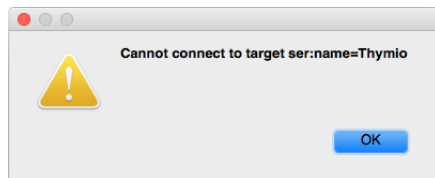
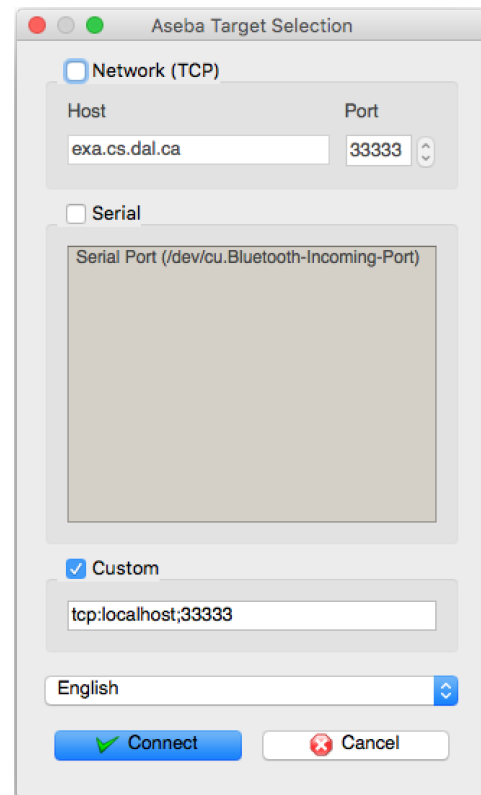

Figure 11: The Thymio-II is not connected.
Figure 13: Select *Custom*.
2. Run Aseba Studio or Studio for Thymio II. You may see the dialog such as the one in Figure 11. In this case click OK. You will then see the connection dialog box such as the one in Figure 13
3. Check the **Custom** option of the connection dialog box (Figure 13). Specify the connection: